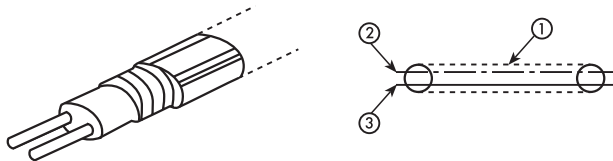

Fig. 3 Construction of a balanced audio cable
Balanced cables consist of shielding (1) and two conductors (Fig. 3). The audio signal is transmitted independently from the shield and ground. Interferences that are intercepted by the shield and ground wire do not affect the audio signal, thus the term ungrounded. The two conductors are wired phase inverted.